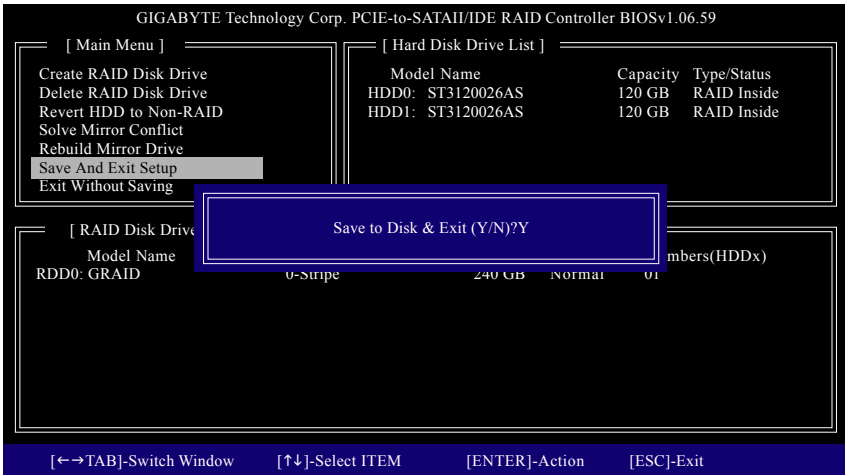

Figure 11
7. **Save and Exit Setup:** After configuring the RAID array, select the **Save And Exit Setup** item in the main screen to save your settings before exiting the RAID BIOS utility, then press <Y> (Figure 11).